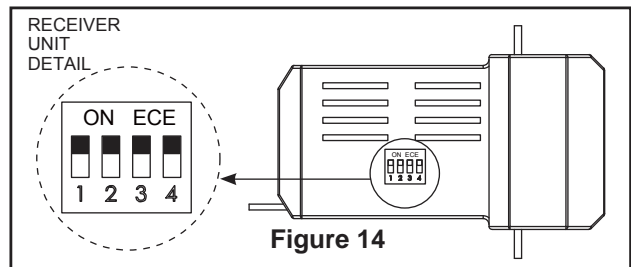

Figure 14
2. To set the receiver unit code, slide code switches to the same positions as set on your transmitter (Figure 14).